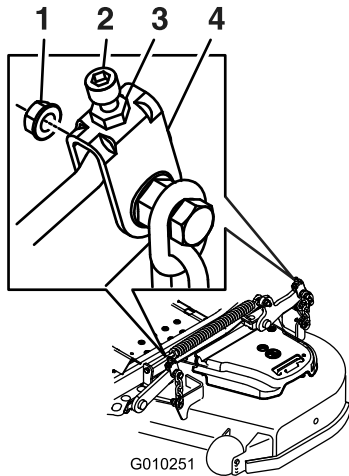

Figure 92
- 11. For mower decks shown in Figure 92, fine-tune the adjustment nut on the front deck lift assembly by turning it (Figure 92).
17. Fine tune the screw adjuster by turning it to get 8.3 mm (3-1/4 inches) height (Figure 92).